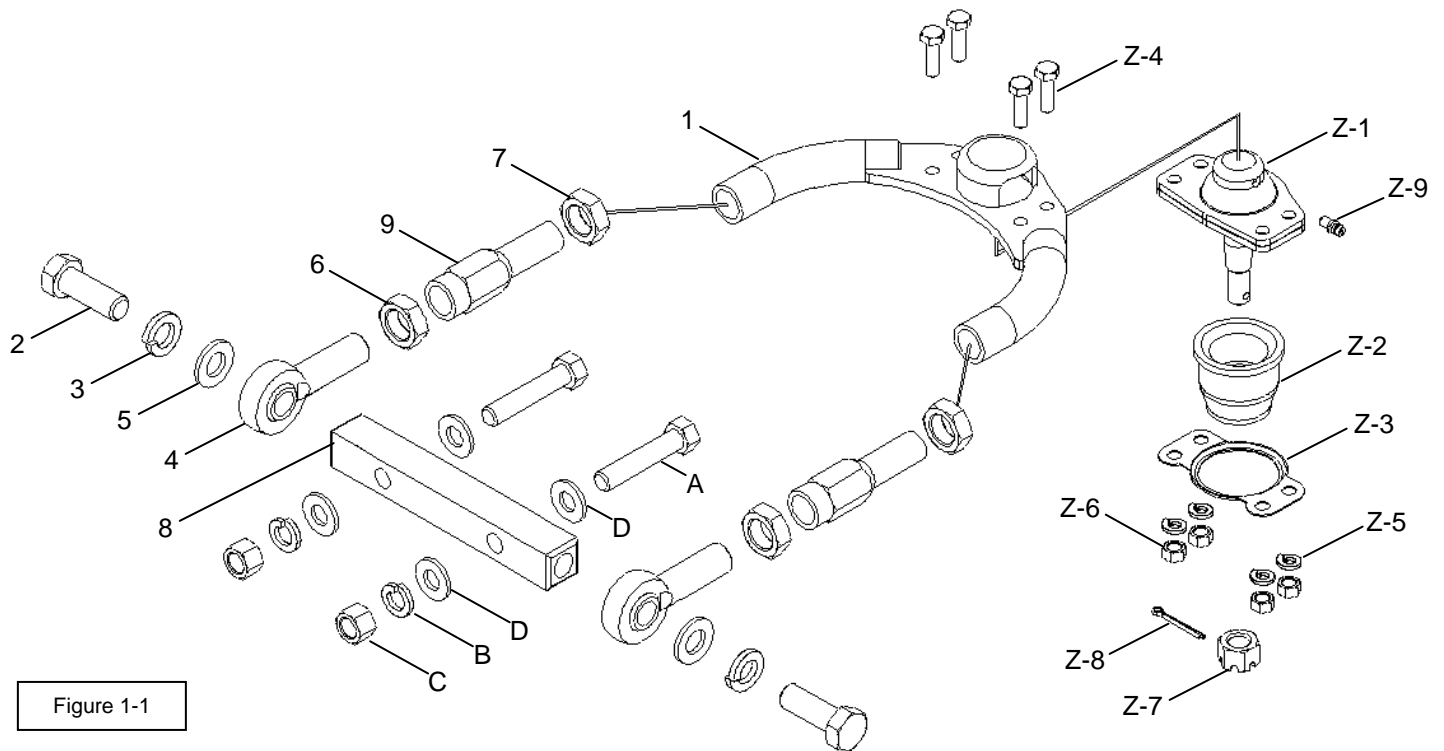

Figure 1-1
16. Reassemble control arm as shown in illustration (Figure 1-1).
- a. Refer to Figure 1-1 for exploded view.